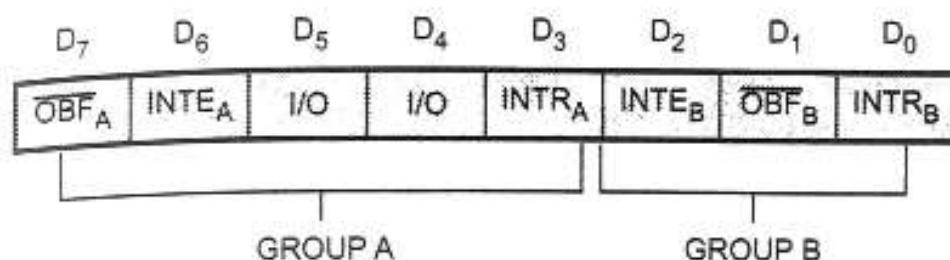

Fig. 3.4.13 Mode 1 status word (Output)
- The status word is accessed by issuing a Read to Port C. The format of the status word when Ports A and B are Output ports in Mode 1 is shown in Fig. 3.4.13.